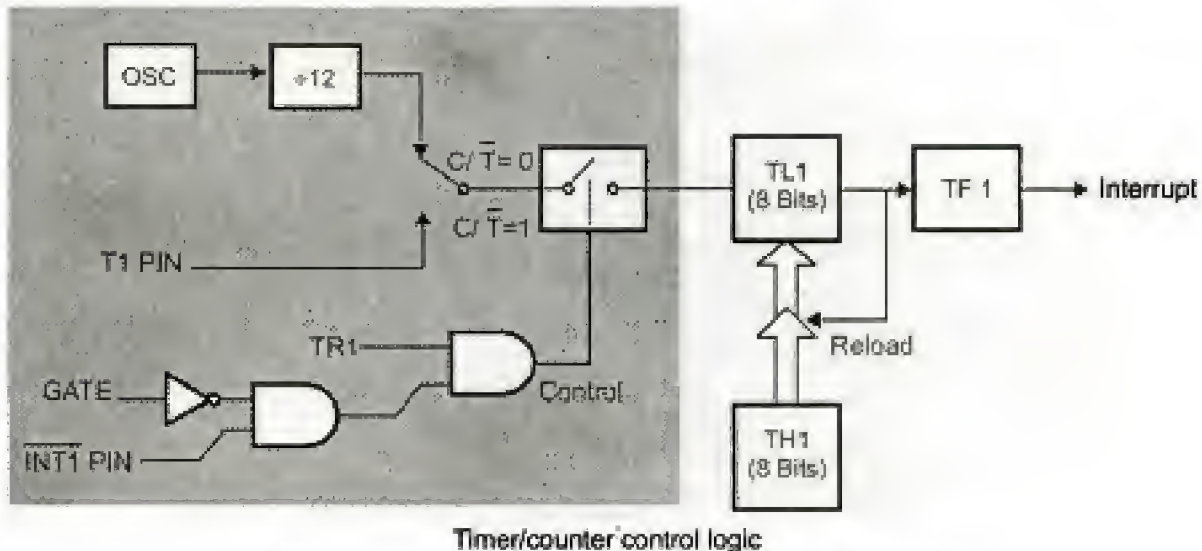

Fig. 9.5 Timer/counter 1 mode 2 : 8-bit auto reload
- **Hardware :** The timers can be started and stopped by an external hardware as long as 'GATE' bit in TMOD register is 1. In Figs. 9.5 and 9.6 , the start and stop operations of the timers are done externally through pins $\overline{\text{INT0}}$ (pin 3.2) and $\overline{\text{INT1}}$ (pin 3.3) for timers 0 and 1 respectively. The timer can be started or stopped at any time externally via a simple switch.
Mode 2 configures the Timer register as an 8-bit Counter (TL1) with automatic reload, as shown in Fig. 9.5. Overflow from TL1 not only sets TF1, but also reloads TL1 with the contents of TH1, which is preset by software. The reload leaves TH1 unchanged. Mode 2 operation is the same for Timer/Counter 0.